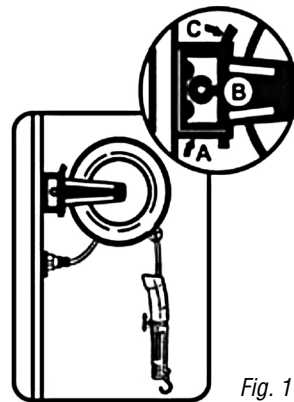

Fig. 1
4. Attach the U-shaped bracket (A) to the beam with the screws provided.
5. Place the hanger bracket (2, B) inside the U-shaped bracket, lining up small holes in the two brackets (Fig. 1).
6. Insert the locking pin (C) through aligned holes.